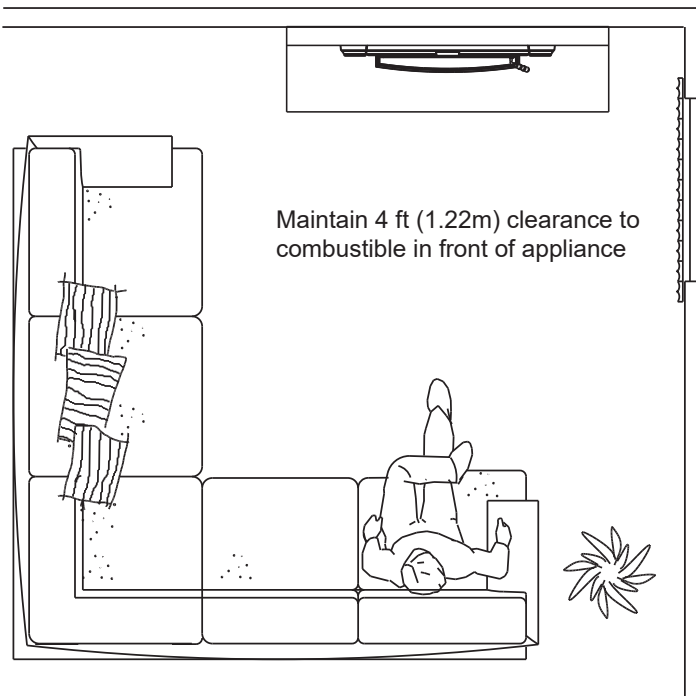

Figure 16.2 - Clear Space
- Do NOT place combustible objects within 4 ft (1.2 m) of the front of appliance (**Figure 16.2**).